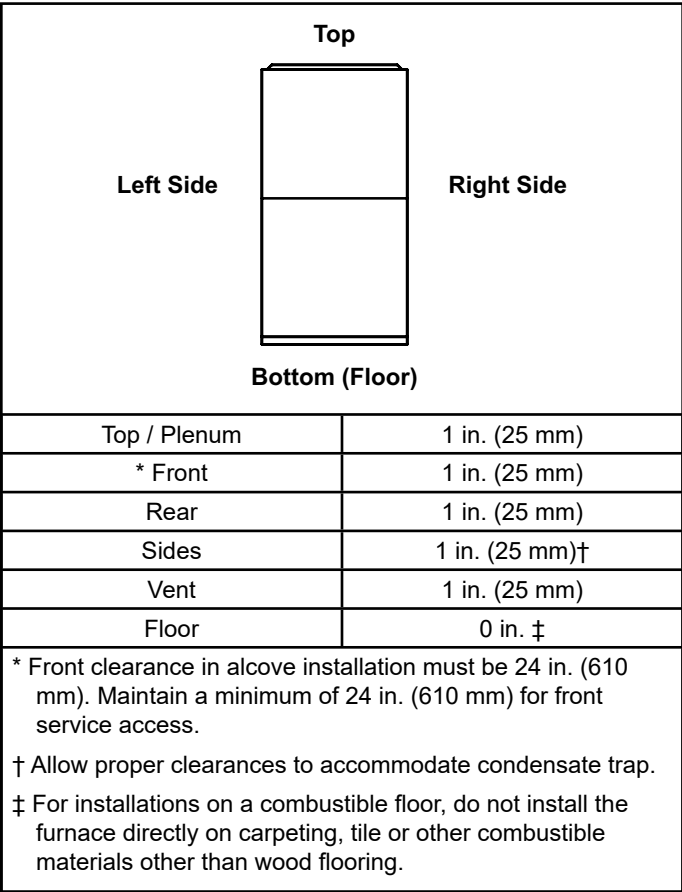
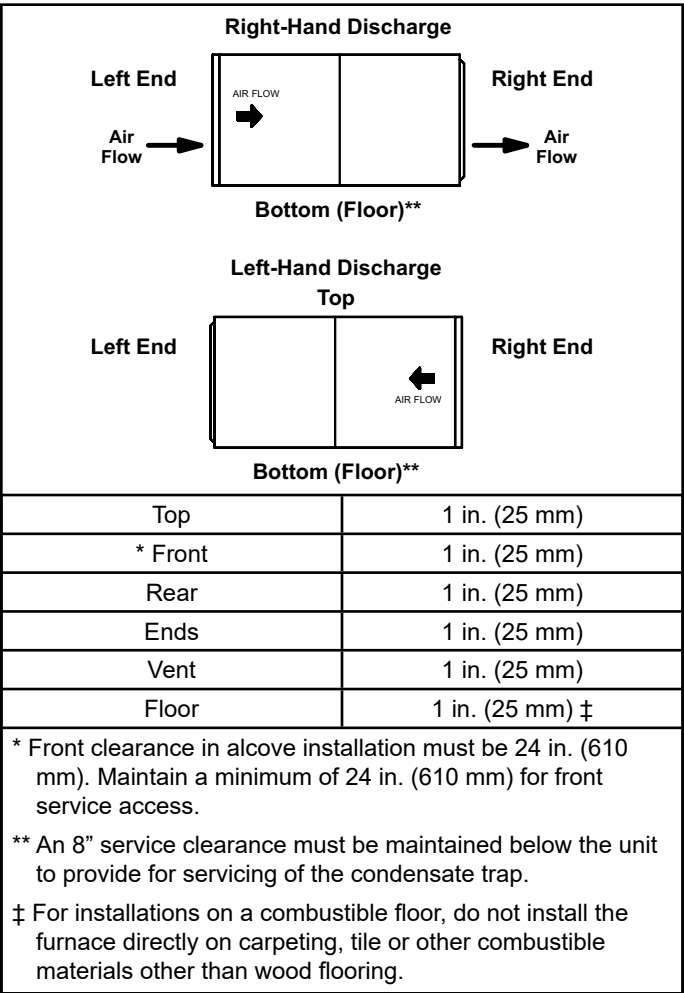

Figure 5. Installation Clearances Upflow Applications
Figure 11. Installation Clearances Horizontal Applications
This furnace is CSA International certified for installation clearances to combustible material as listed on the unit nameplate and in the table in Figure 5 or Figure 11. Accessibility and service clearances must take precedence over fire protection clearances.
The A97US2VXK gas furnace can be installed as shipped in the upflow position. Refer to Figure 5 for clearances. Select a location that allows for the required clearances that are listed on the unit nameplate. Also consider gas supply connections, electrical supply, vent connection, condensate trap and drain connections, and installation and service clearances [24 inches (610 mm) at unit front]. The unit must be level from side to side. The unit may be positioned from level to 1/2" toward the front. See Figure 6.
Refer to Figure 11 for clearances in horizontal applications.
1. Select location for unit keeping in mind service and other necessary clearances. See Figure 11.